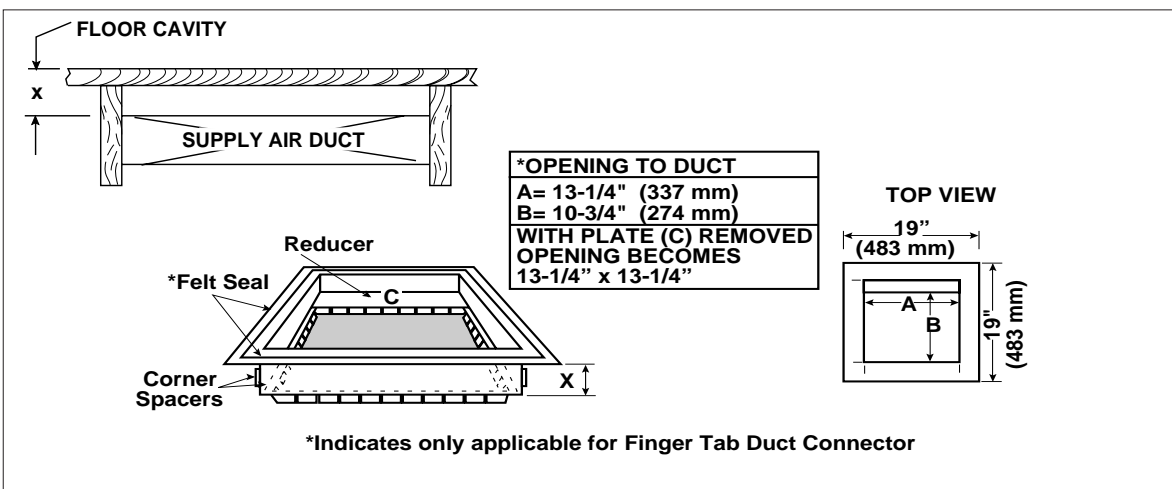

Figure 5. Duct Connector Selection (Non-Platinum)
1. Determine depth of floor cavity from surface of floor to top of supply air duct (see Figure 5).
2. Select appropriate model from Table 4 which matches X-dimension of floor cavity. To maximize air delivery, remove reducer (C in Figure 5) to obtain largest open area that will fit duct/floor construction.
2. Attach frame assembly with four fasteners (provided or equivalent) into pre-punched holes on top of furnace (see Figure 5).